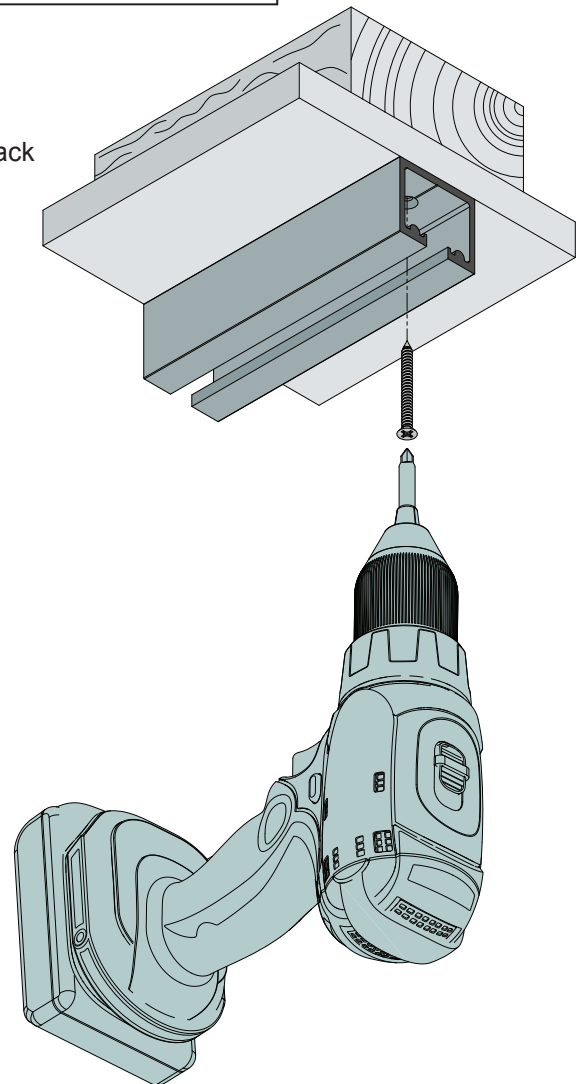

Fig. 3
3. Secure the top track onto the top surface with #10 screws (not provided) at 12" (305 mm) on center and 1-1/2" (38 mm) from the wall. **(Fig. 3)**